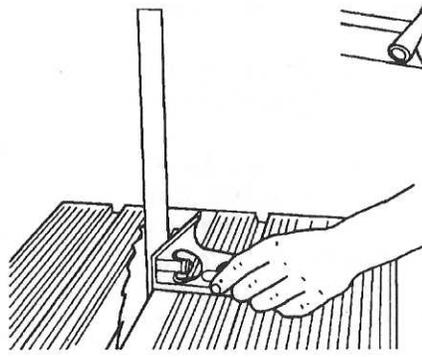

Fig. B-64
26. Place the combination square against both the saw blade and worktable, as seen in Fig. B-64. Make sure the square's blade does not touch a saw tooth and does rest in a gullet between teeth.